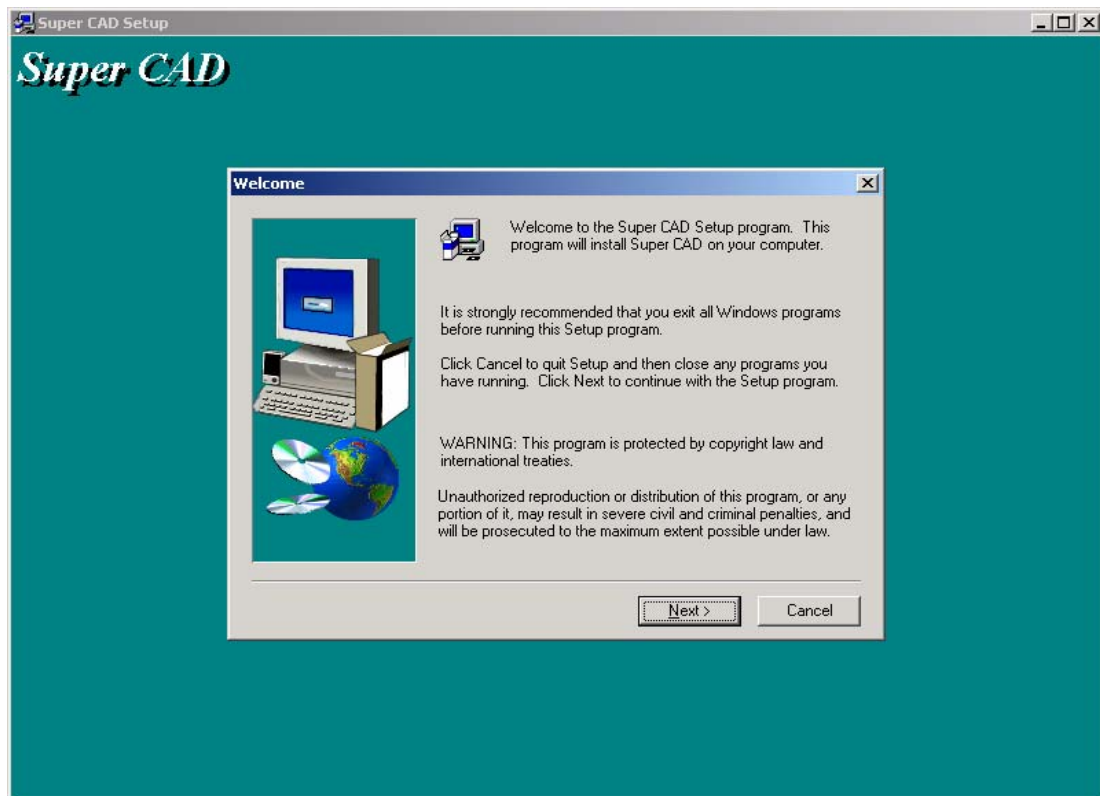

Fig 1.1 Installation Window
2. Enter the Installation window of Super CAD, as shown in the Fig. 1.1: